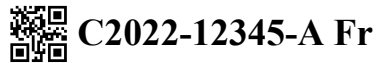

Figure 4-23 Hide the 1st Sub ID No.
- Hide the 1st Sub ID No.: The 1st Sub ID No. will be hidden while printing (Figure 4-23).